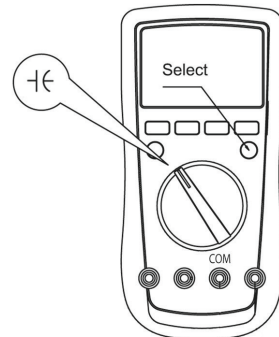

Figure 7
F. CAPACITANCE MEASUREMENT (See Figure 7)
G. FREQUENCY MEASUREMENT (See Figure 7)